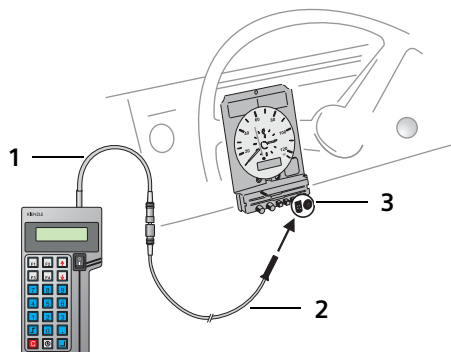

Fig. 8: Connecting the HTC+ to the Kienzle FTCO 1319
1. Connect the HTC+ (1) to the Kienzle FTCO 1319 (3) via the FTCO diagnosis cable (2) as illustrated in fig. 8.